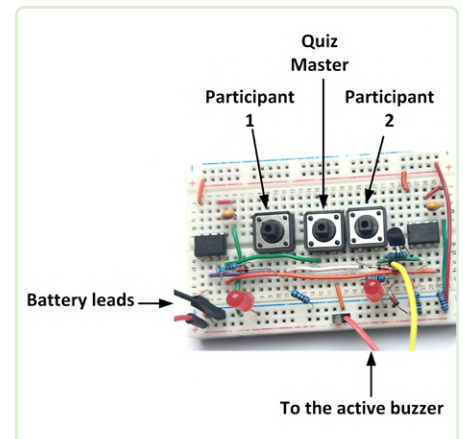

Figure 7: Breadboard setup for the two-player project.
**Figure 7** shows the circuit on a breadboard. Press the buttons randomly as well as at the same time to make sure that only the first button press is accepted by the circuit.